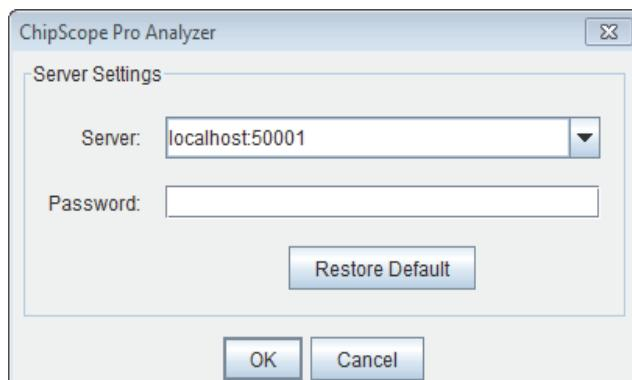

Figure 5-8: Changing the ChipScope Pro Analyzer Server Host Settings
5. In the ChipScope Pro Analyzer tool, select **JTAG Chain>Server Host Setting**. Change the server to **localhost:50001** (see Figure 5-8)